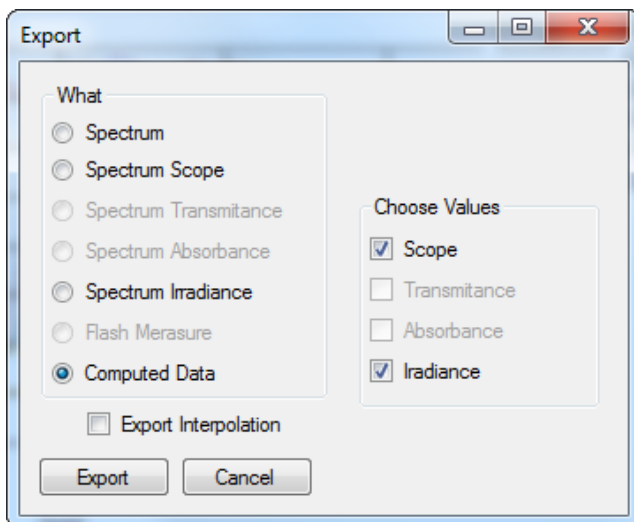

Fig. 37 Export of computed values.
**Computed Data** – computed numeric values for Scope and Irradiance are exported for all measurements. The user can choose if only Scope numeric values or Irradiance numeric values are exported. For irradiance values, numeric data for Photon flux density and PAR in  $\mu\text{mol}\cdot\text{m}^{-2}\cdot\text{s}^{-1}$  units, irradiance in  $\mu\text{W}\cdot\text{cm}^{-2}$  units and illuminance in LUX units are exported (Fig. 37).